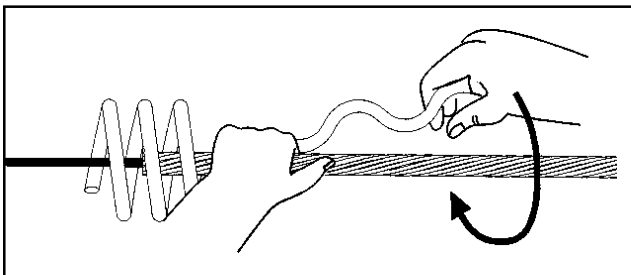

FIGURE 3 - WRAP THE GRIPPING SECTION
2.03 Once the coil section is positioned properly, wrap the gripping section around the Structural Reinforcing Rods, as in Figure 3. Make sure to completely snap the gripping section into place to finish the installation.